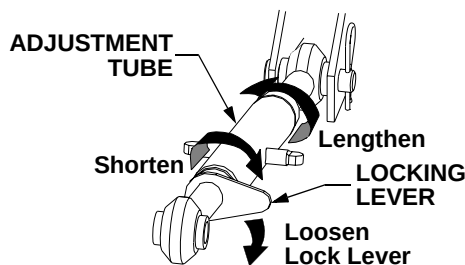

Figure 24
- The length of the upper hitch link is normally determined by the design of each implement. To adjust the upper hitch link, loosen the locking lever and turn the adjustment tube as shown in Figure 24. After the appropriate length is attained, tighten the locking lever. If correctly adjusted, the upper hitch link will be parallel or nearly parallel to the lower hitch links.